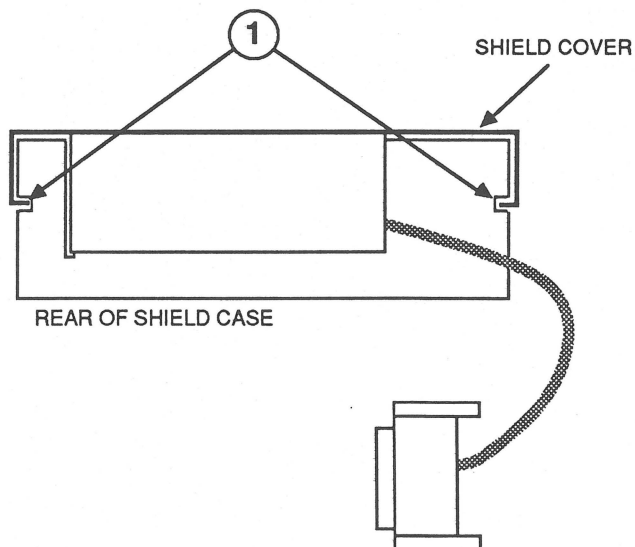

FIGURE 6
3. Align retaining tabs at back of shield cover with cutouts in the shield case (Figure 6, #1), and snap the shield cover into place.